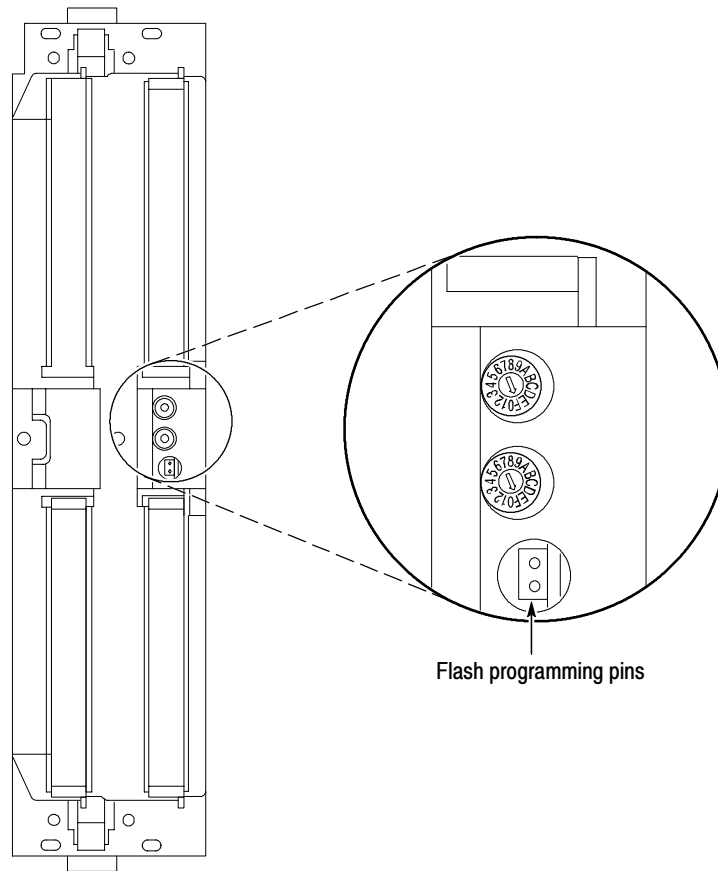

Figure 27: Flash programming pins
4. Refer to Figure 27 on page 56 and locate the flash programming pins on the rear of each module.